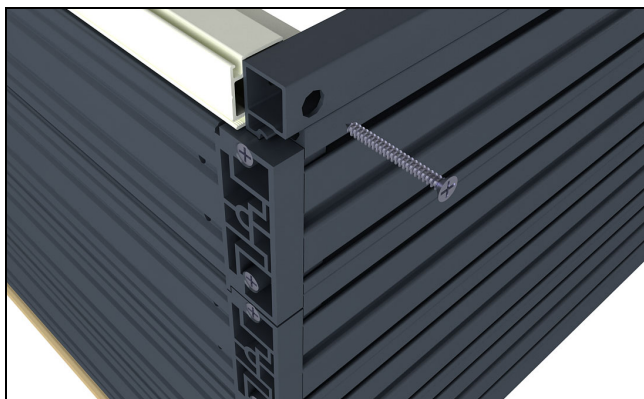

Figure 77
6. Fasten sill liner to frame cladding using #8 x 1 1/2" flat head screw. *Note: Ensure hole is line up with the screw boss in frame cladding.* See figure 77.